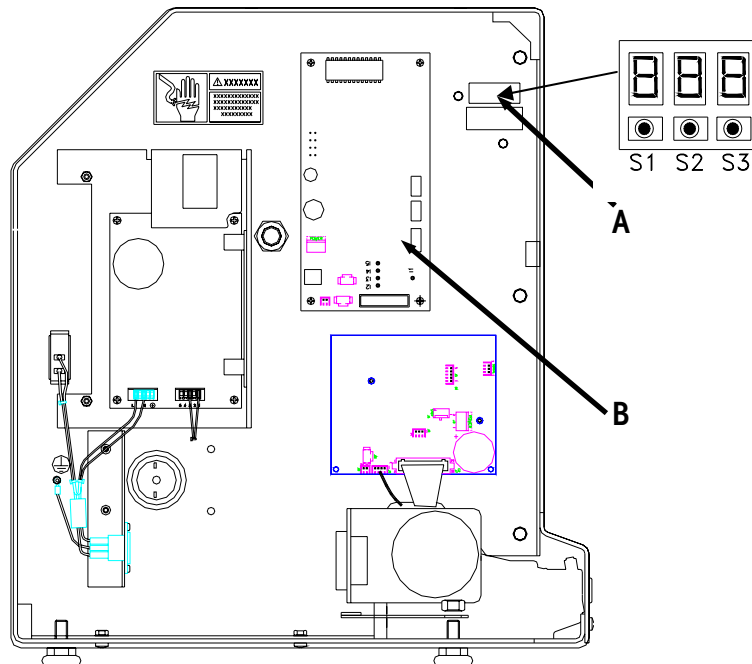

Figure 3-4: Display PCB (A) and Status LED's (B)
The three digit LED display (A in Figure 3-4) indicates errors and status messages, including serial input errors, processing errors, or printing errors. This is used for technical troubleshooting purposes only and not intended for operator interface. Table 3-1 lists the possible error codes. Units built after Mid-2005 are not equipped with the on board display. They interface through the scale controller display.
In addition to the Display PCB, there are four LED's (B in Figure 3-4) on the Applicator Control PCB (marked I2, I3, I4, I5) to aid in troubleshooting problems with the Applicator, by indicating error conditions (visible by removing the side cover). All four LED's are off during normal operation. On power-up, the LED's will illuminate one at a time in sequence. An LED that stays on continuously indicates an error. The errors are shown in Table 3-2.
4. Turn on the Model 317 power switch and continue to hold the label feed button. After 5 seconds the LED Display (A in Figure 3-4) inside the Model 317 will begin to count down from 10 to 0. If the 317 is not equipped with a display PCB, hold the button for 15 seconds minimum before releasing it.